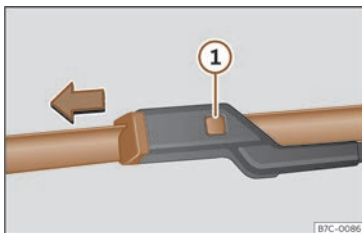

Fig. 204 Changing the windscreen wiper
- Press and hold release button >>> **Fig. 204**
① and pull gently on the wiper blade in the direction of the arrow.